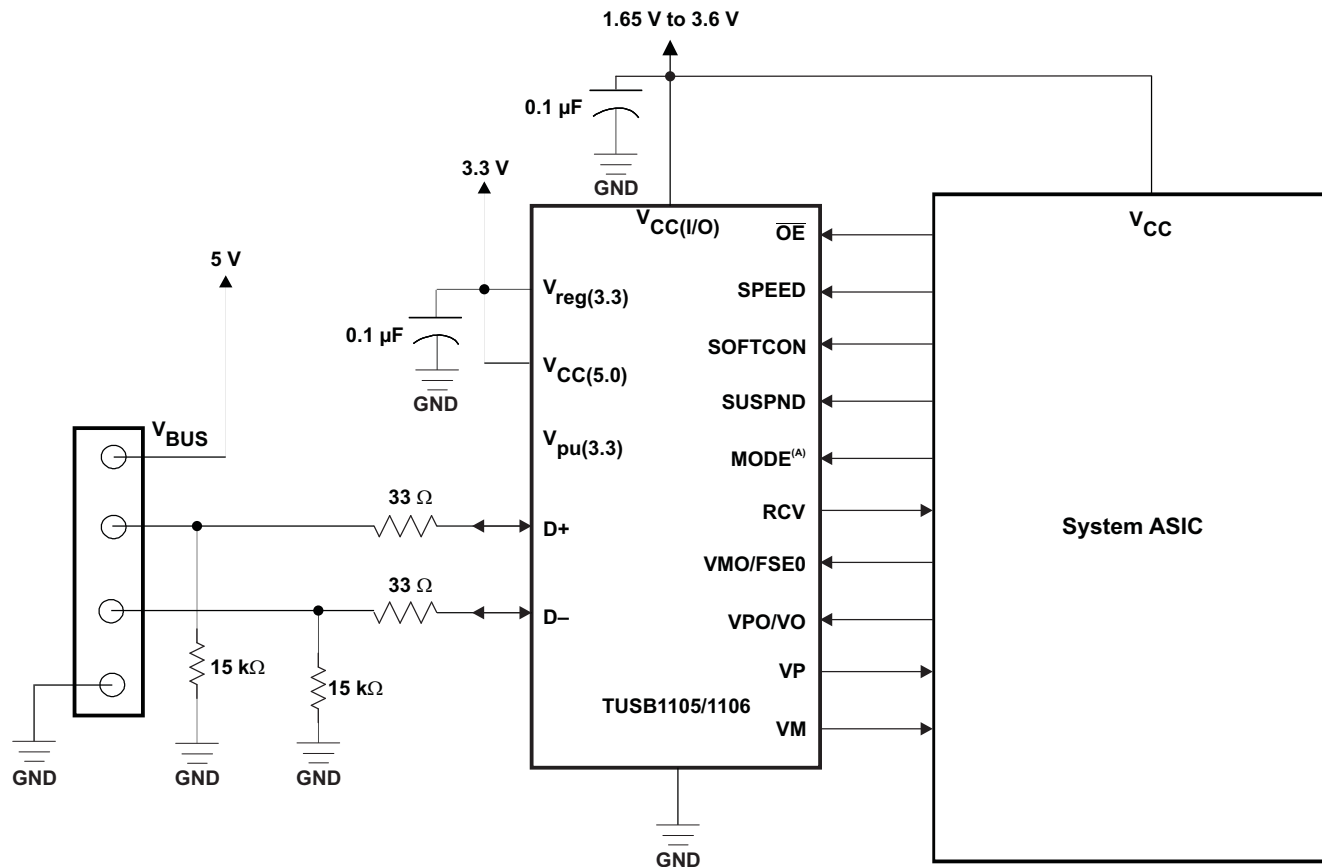

Figure 13. Host-Side (3.3-V Supply Present) Internal Regulator Bypass Mode
(1) Test circuit, see Figure 13
(2) Driver timing in low-speed mode is not specified. Low-speed delay timings are dominated by the slow rise/fall times  $t_{LR}$  and  $t_{LF}$ .